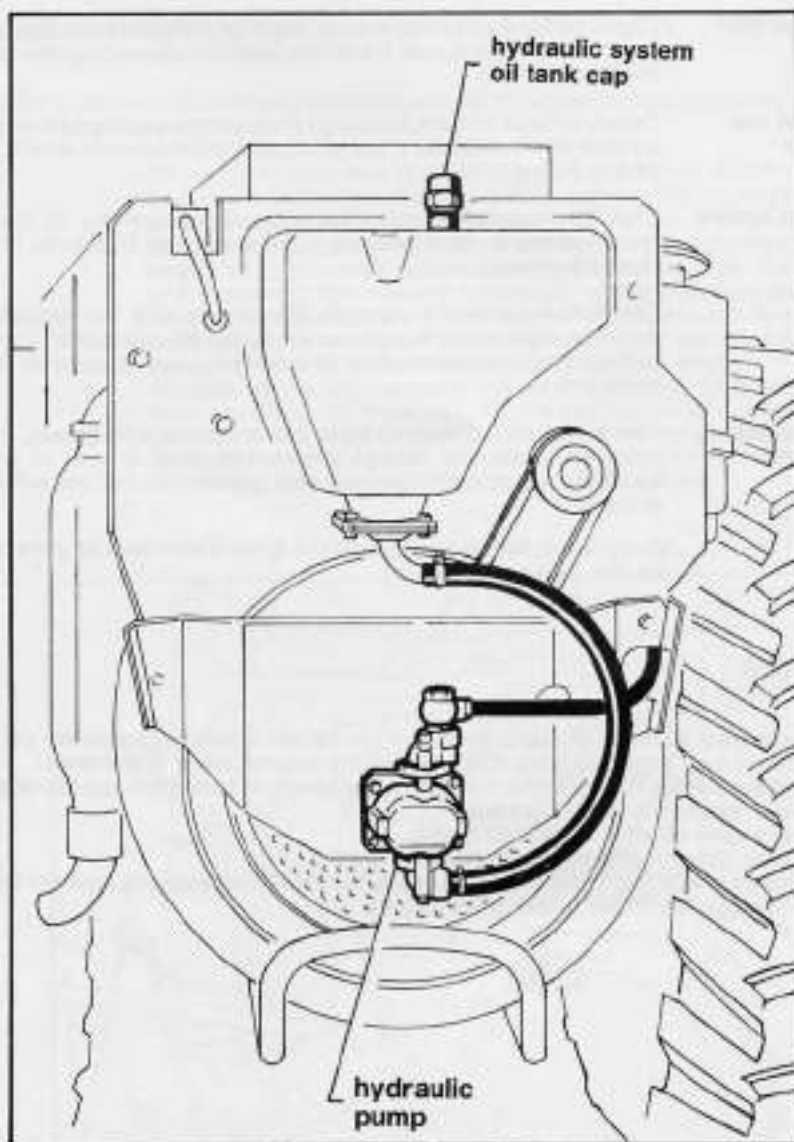

Fig. 3
- Hydraulic system** - Check the quantity of oil in the hydraulic system (fig. 3). Check oil level and top it up, if necessary, with the rear hydraulic lift completely lowered.